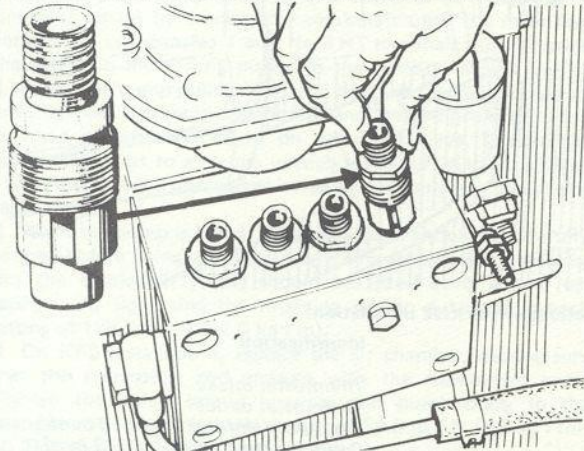

Fig 3.31 Delivery valve complete with spacer
- 5 Fit the new valve complete with spacer and tighten it to a torque wrench setting of 36 lb f ft (5.0 kg f m) (Fig. 3.31).